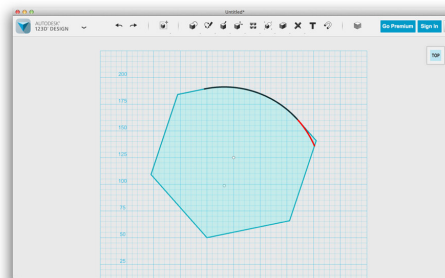
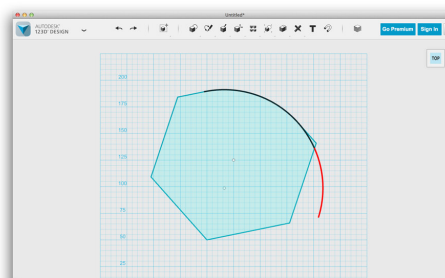

Figure 4-84 Select the arch that you wish to extend
Figure 4-85 The red line shows how far the sketch will extend
3. Select the arch within the sketch that you want to extend (Figure 4-84). A red line will appear (Figure 4-85) indicating where your sketch will extend to.